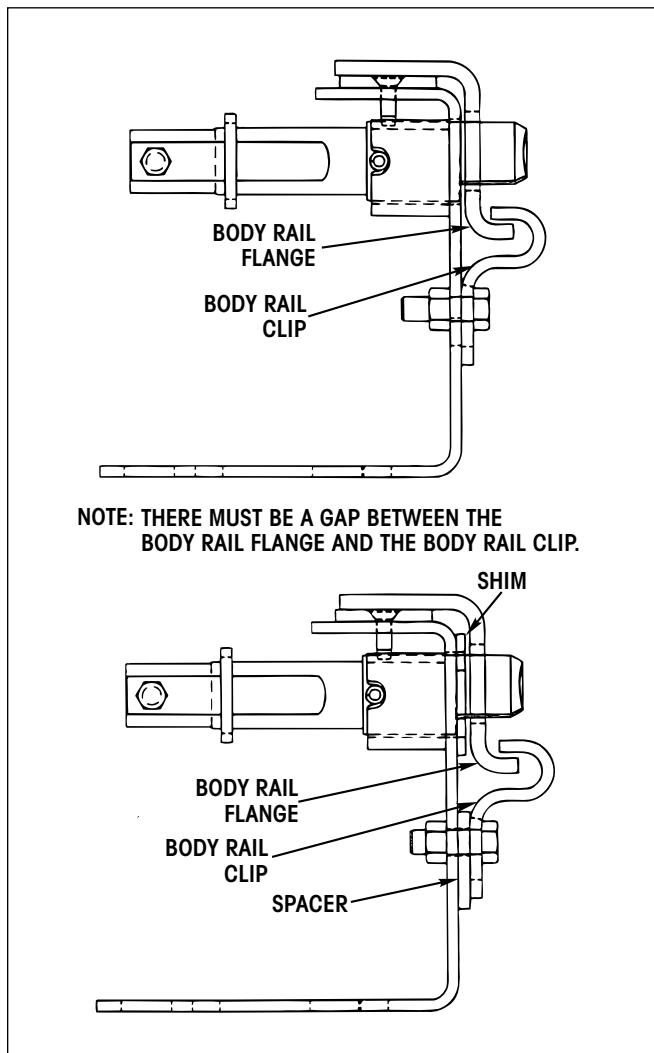

Figure 35. Correct body rail clip installation
6. Position the body rail clips over the body rail flange (Figures 35 and 36).
8. Position body rail clips over the body rail flange (Figure 35), and torque all of the body rail clip fasteners to the recommended value listed in the APPENDIX.